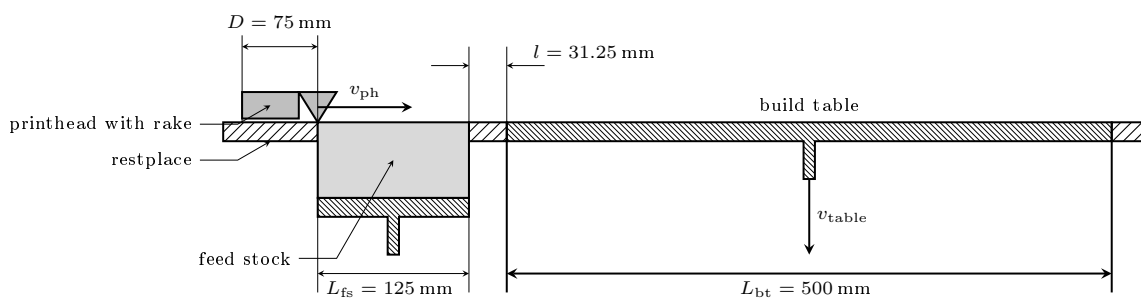

Figure 3: Schematic representation of the Digital MetalTM machine
- c) As a first manufacturing option, you select the Digital Metal™ process by the Swedish company Höganäs (see Fig. 3). In which categorie of additive processes does this particular process belong?